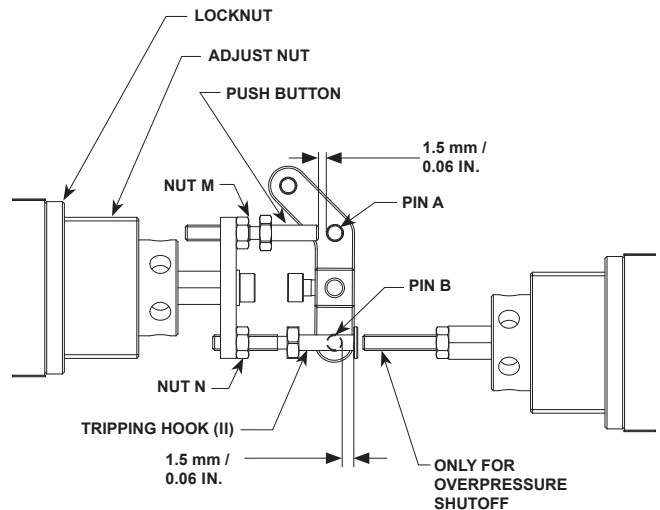

Figure 14. Type BMS2 Construction
Adjustment of Type BMS2 is the same as Type BMS1. See Figure 14. First, verify the position of push button for overpressure. Screw the adjust nut in to raise the set pressure and screw it out to reduce the pressure. Next, tighten the locknut of adjust nut. Then, adjust the position of tripping hook (II) to set the pressure of underpressure shutoff.